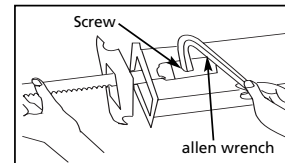

Figure 2
- Tighten the screw with allen wrench. (See Figure 2)